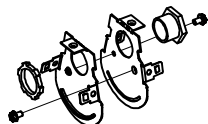

FIG 7: JOINER ASSY
- 3) Slide joiner assembly/endcap into fixture. Slide in next luminaire into joiner assembly as shown in FIG 7.